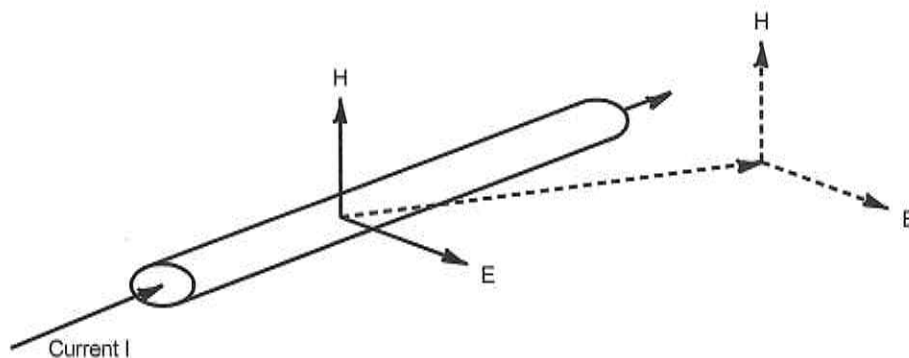
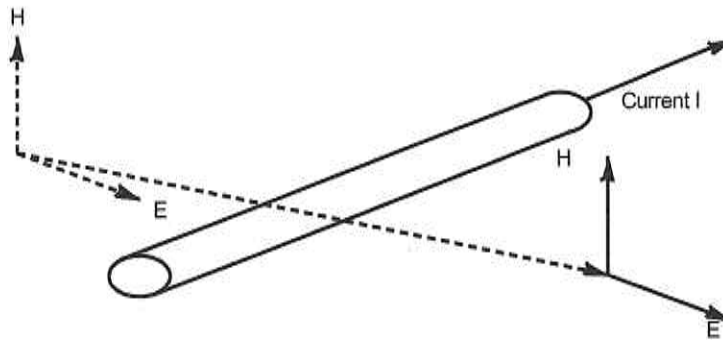

Figure 11-1. Transmitted electromagnetic (EMF) field.
Figure 11-2. Received EMF field.
When a current flows in a conductor, Figure 11-1, it produces an Electro-Magnetic (EM) field around the wire. The field is represented by a magnetic field vector (H) and an electric field vector (E), both at 90 degrees to the direction of the current, and each other. The EM field is coupled into the space surrounding the wire and then propagates away from the wire. When an EM field travelling through space encounters another wire, it produces (induces) a current in that wire (Figure 11-2). This is how a signal transmitted into an antenna is radiated through space to be picked up by a receiving antenna.